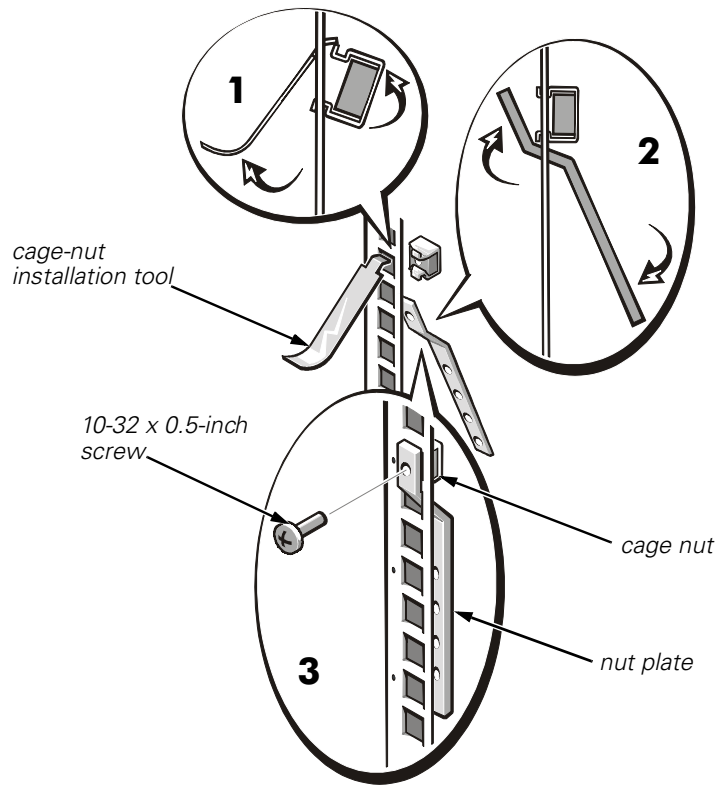

Figure 5. Installing a Cage Nut and Nut Plate
Install the curved nut plates on the vertical rails where you want the ends of the slide assemblies to be located (see Figure 5). Each curved nut plate is held in place by one Phillips-head screw and one cage nut.
- a. Insert the lower lip of the 10-32 cage nut over the bottom of the opening in the back of a rail as shown in step 1 in Figure 5. Then insert the small end of the cage-nut installation tool through the opening in the rail (from the front), and hook the tool over the top lip of the cage nut.
- b. Push in on the cage nut while rotating the tool up and pulling the tool back toward you until the top lip of the cage nut snaps into position (see step 1 in Figure 5).
- d. To install one of the curved nut plates, insert it through the hole below the cage nut (from the back of the rail) as shown in step 2 in Figure 5. Then secure the nut plate in place with a 10-32 x 0.5-inch Phillips-head screw (see step 3 in Figure 5).